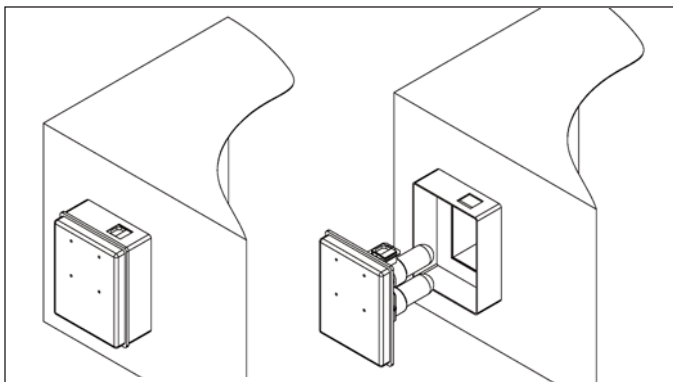

fig. 18
- Remove the 4 fixation screws of the cover of the box (fig. 18).